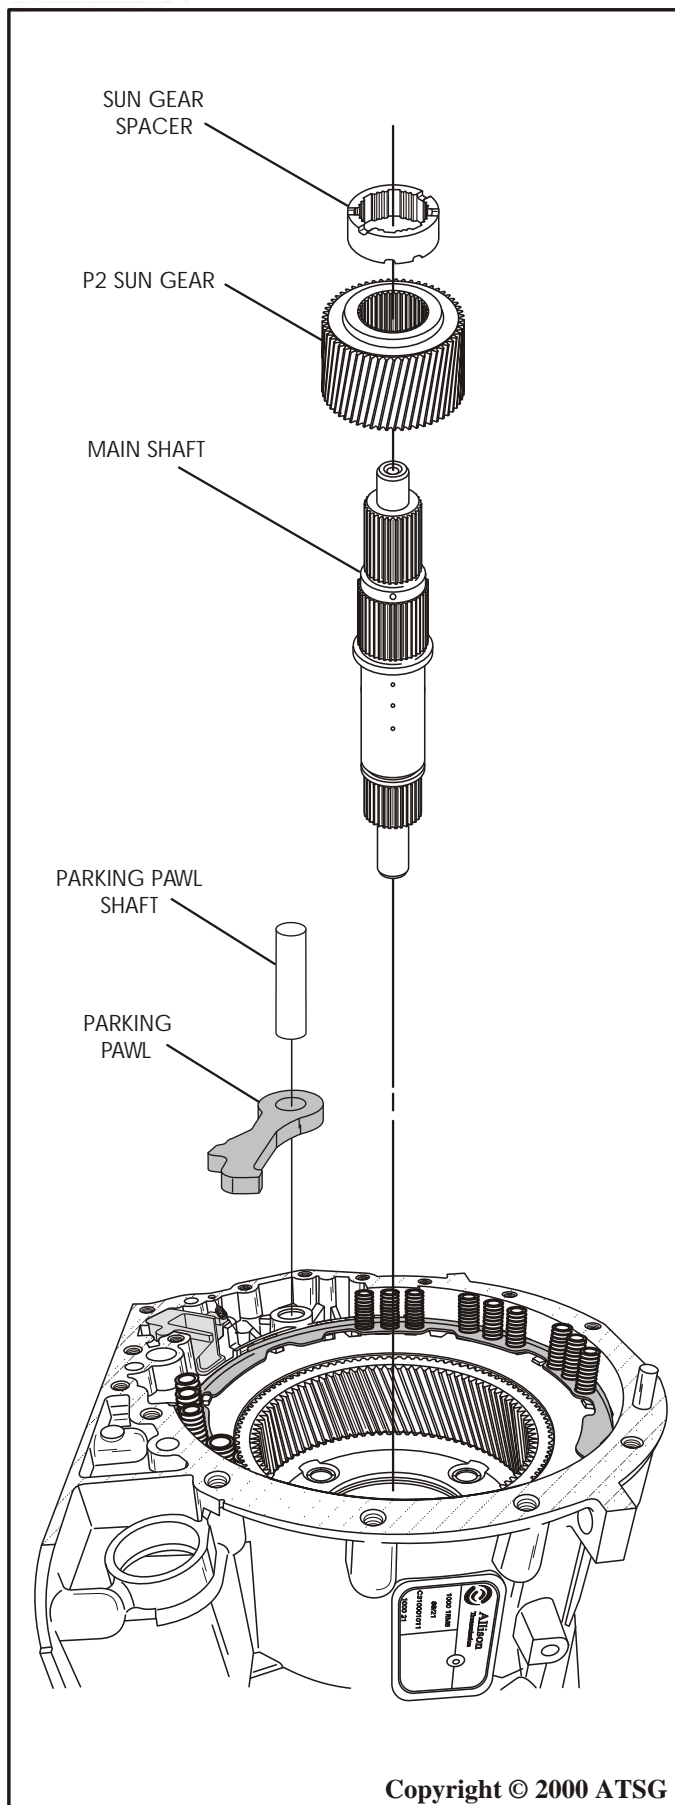

Figure 158
30. Align the pin hole in the parking pawl with the parking pawl pin bore in the case, and install parking pawl pivot pin through the park pawl and into case bore (See Figures 158 and 159).
31. Install the P2 sun gear and sun gear spacer on the main shaft splines, and install the assembly into carrier, as shown in Figure 158.